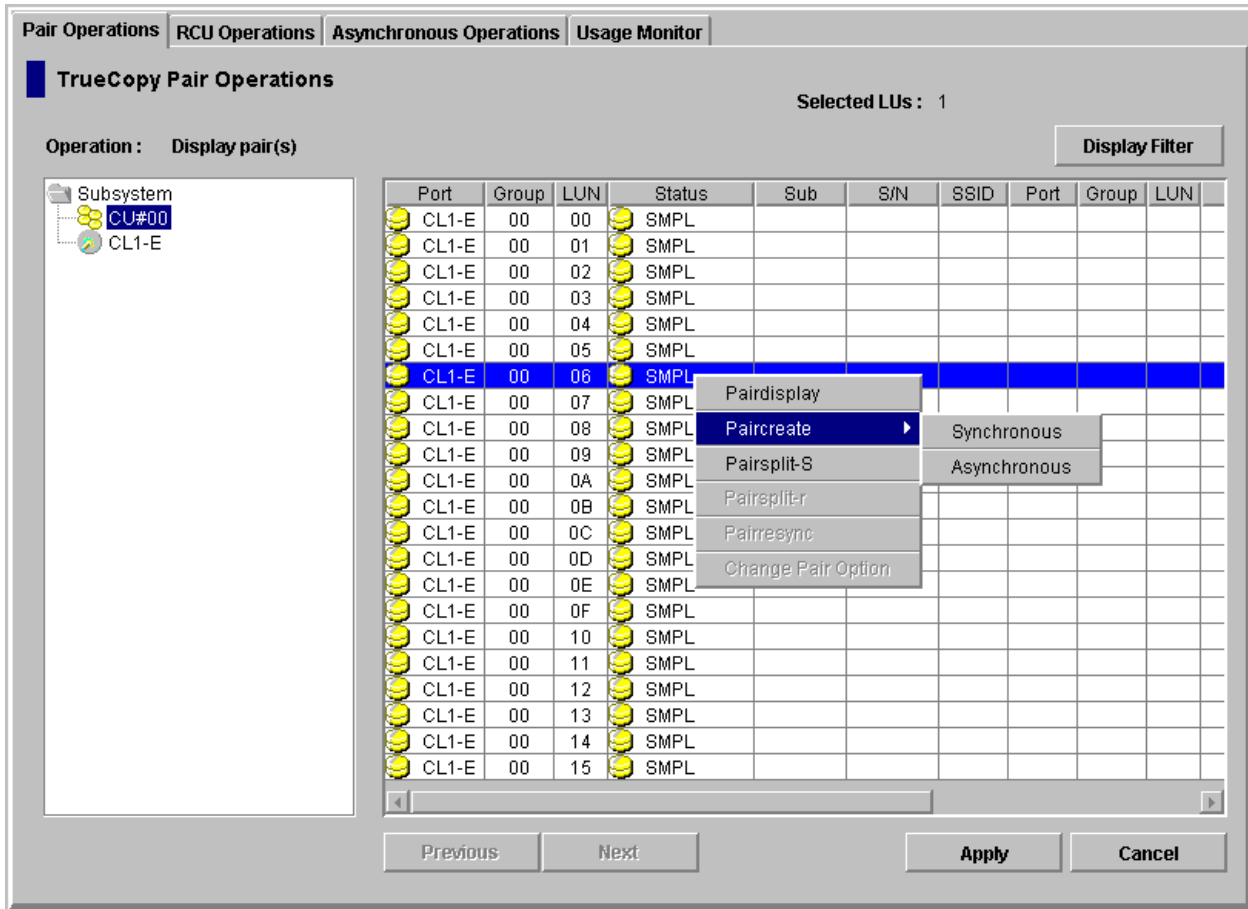

Figure 5.2 Pop-up Menu for the Pair Operations Tab
3. Right-click on the selected LU(s)/pair(s) to display the pop-up menu (see Figure 5.2):